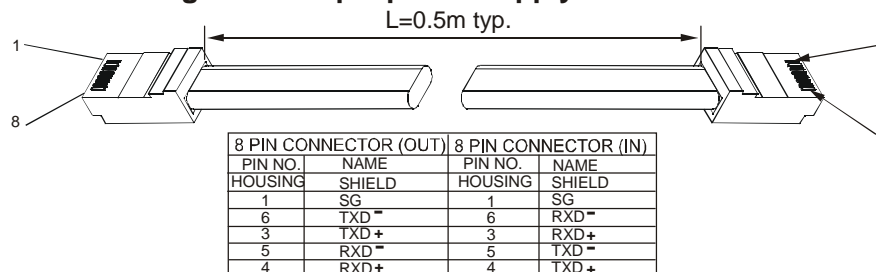

Fig.8-6: Serial link cable with RJ-45 shielded connectors (P/N: GEN/RJ-45)
- Using the Linking cable (Refer to Fig. 8-6), connect each unit OUT connector to the next unit IN connector.